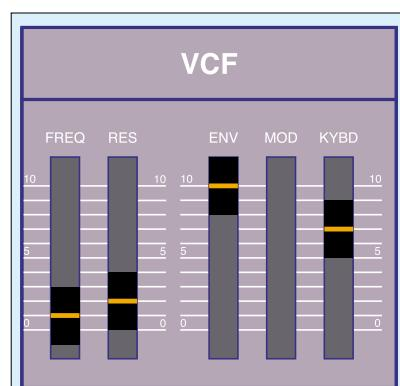

Figure 8: The VCF settings.
► open a great deal during the Attack phase of the envelope. This means that the Freq slider in the VCF section must be close to zero, and the Env fader must be at or near its maximum. Furthermore, as you should know from the theory explained two months ago, there must be just a touch of resonance to create the correct harmonic profile, and the cutoff frequency must track the keyboard at a little less than 100 percent. If I ignore the Mod fader, this allows me to define the VCF section as shown back in Figure 8.